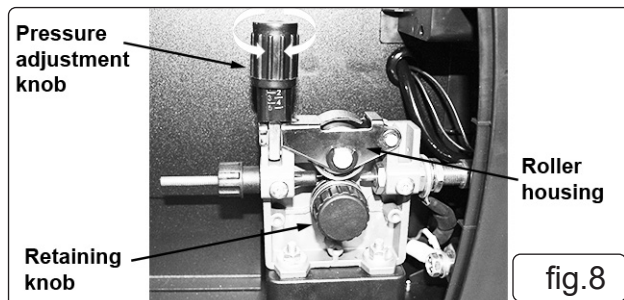

fig.8
- 5.6.1. To access the drive mechanism push down on the pressure roller housing (fig.8) and pull the pressure adjustment knob (fig.8) towards you and allow it to rotate downwards. Release the pressure roller housing allowing it to rotate up towards the right.
- 5.6.5. Push down the pressure roller onto the wire feed roller and hold it down then rotate the pressure knob upwards and into the housing until it snaps into position (fig.8).
NOTE: Turning the knob clockwise increases the pressure and turning anti-clockwise decreases the pressure (fig.8).
- 5.7.1. Adjust the wire tension by turning the wire tension knob (fig.8). Turn clockwise to increase the tension and anti-clockwise to decrease the tension.
- 5.7.2. Tension between rollers is checked by slowing down the wire between your gloved fingers. If the top feed rollers skid the tension is correct. Use as low a tension as possible; too high a tension will deform wire and result in a blown fuse on the printed circuit board. Adjust tension by turning the pressure knob (fig.8).
- 5.8.2. Unscrew and remove the black feed roller retaining knob (fig.8), and put to one side.